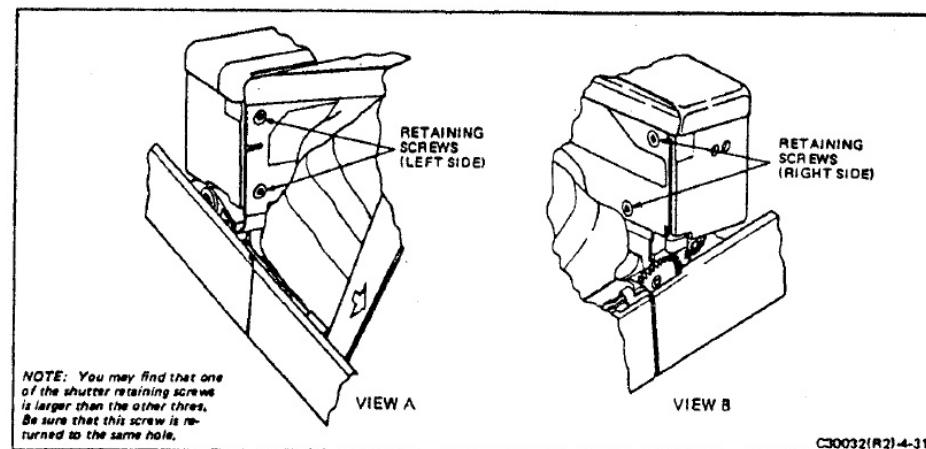

FIGURE 4-31 SHUTTER MOUNT RETAINING SCREWS
- c. At the back side of the shutter mounting bracket, remove four screws which secure the shutter (Figure 4-31).
- c. Align the shutter on the mounting bracket and secure it by installing the four screws previously removed (Figure 4-31).
- At the backside of the shutter mounting hinge bracket, remove the four screws which secure the shutter to the bracket. See Figure 4-31. Lift off the shutter.